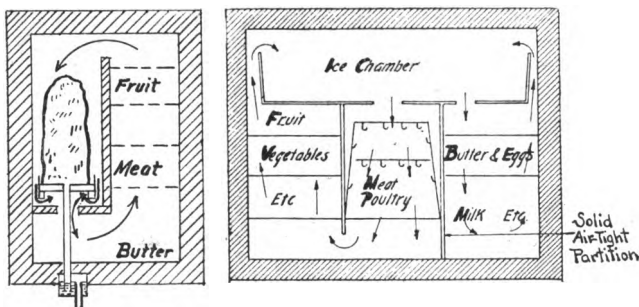

FIG. 33.—REFRIGERATORS IN SECTION
**79. Refrigerator.** In the refrigerator (Fig. 33) the ice is always placed near the top, so that the cold air in falling will force the warm air below up to the top, thereby bringing the cold air in contact with the food. The warm air, when cooled by the ice above, in turn falls.